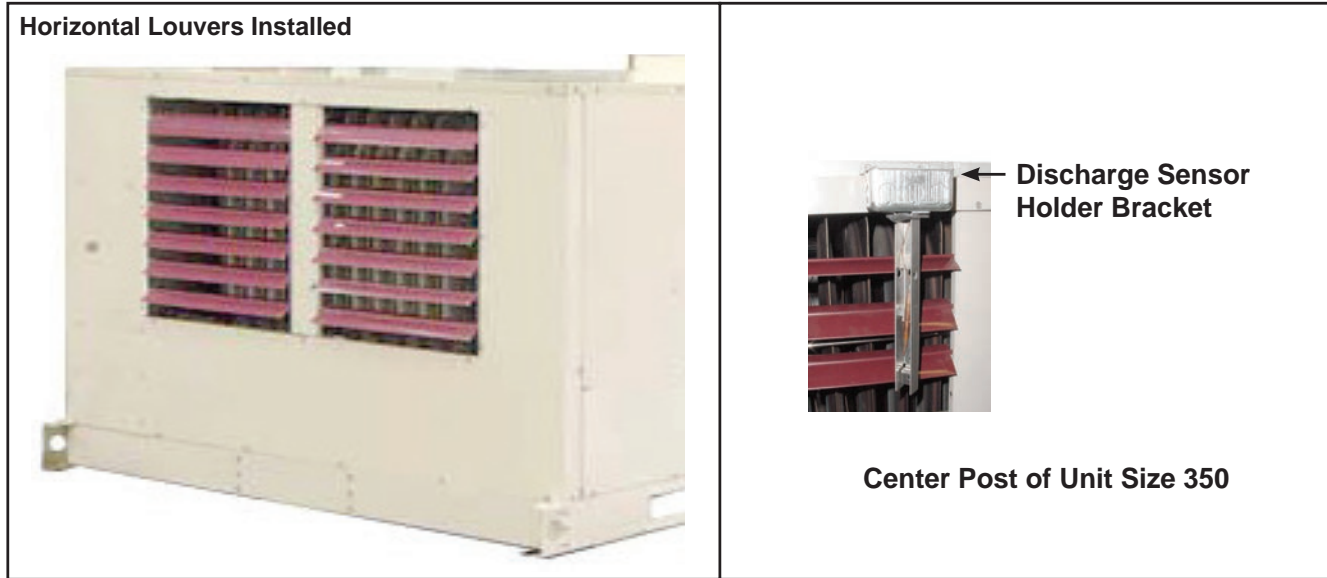

Figure 34. Louvers
- If a discharge sensor (see Figure 34) is installed with the louvers, attach the sensor holder (item 61, Table 3) using a bracket (item 62, Table 3).